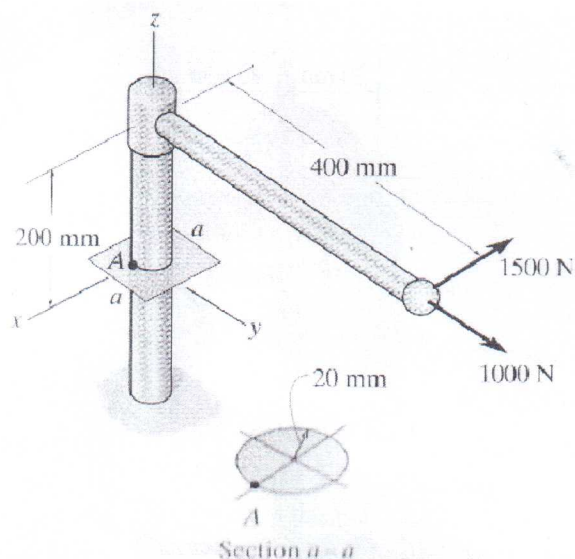

Figure 2.
- (2) Determine the state of stress at point  $A$  on the cross section of the pipe assembly at section  $a-a$  shown in Figure 2.